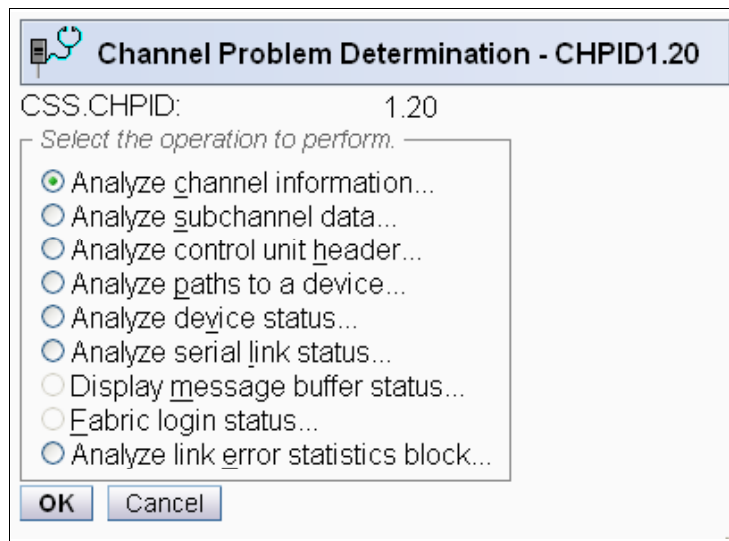
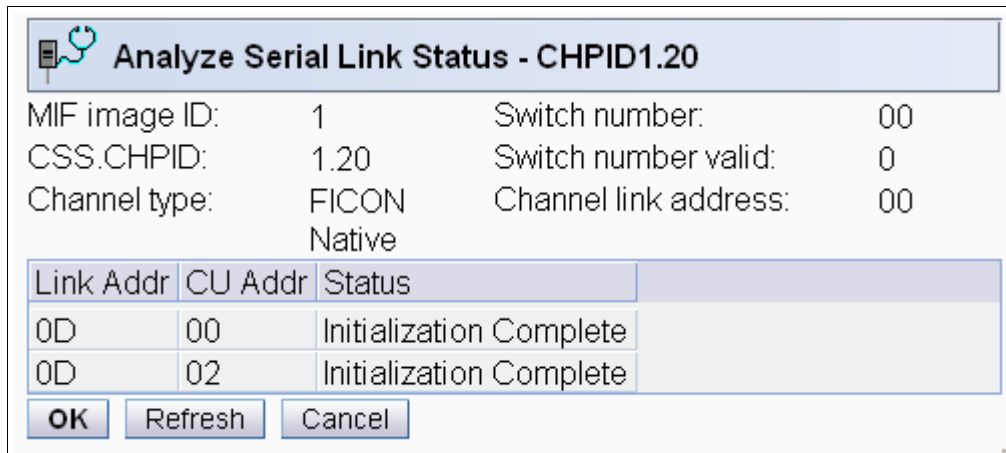

Figure 5-43 HMC Channel Problem Determination panel
Figure 5-45 HMC Analyze Serial Link status
3. Check that the FICON channels are connected to the correct host adapter port in the DS8000 storage controller. On either the PCHID details or CHPID details panel, click the **Channel Problem Determination** button. This displays the Channel Problem Determination panel, where you can select which information you want to display. See Figure 5-43.
- On the Channel Problem Determination panel, shown in Figure 5-43 on page 151, select **Analyze Serial Link Status**, and click **OK**. The Analyze Serial Link Status window is displayed, as shown in Figure 5-45.
The Analyze Serial Link Status window provides status information about the link to the control unit images defined in the IODF. Scroll through the list of CU images, and check that the status for all CUs displays as **Initialization Complete**. Figure 5-45 shows a link status of **Initialization Complete** for all defined CU images on CHPID 20.